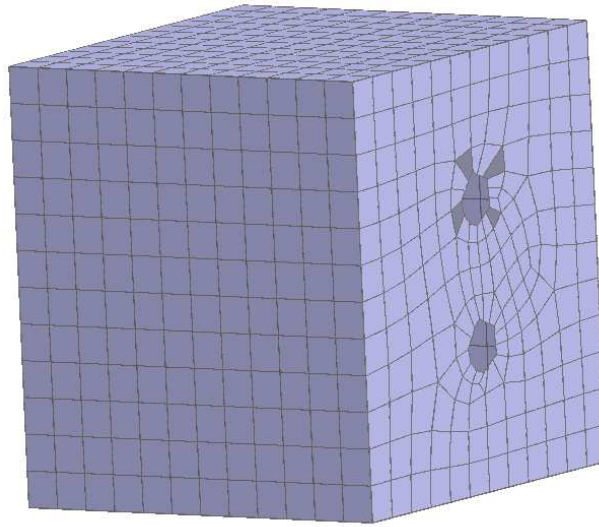

Figure 9.35: Select elements for creating a seam.
- Left-click on the elements around the edge of a hole while holding the *shift-key*. Make sure to select elements with nodes on the hole edge as shown in Figure 9.35.